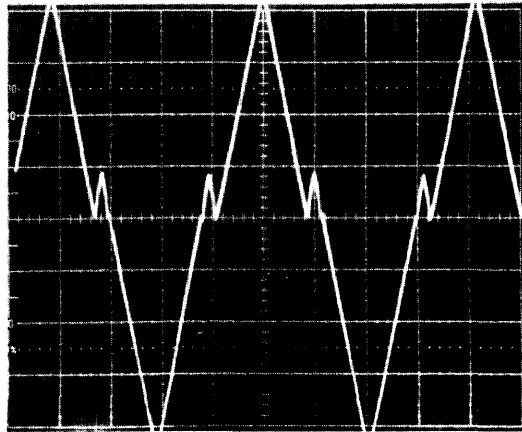

Figure 6.12
6.8.7 Set scope to 0.5 V/div. Adjust G-Pot for a pattern as in Figure 6.12.